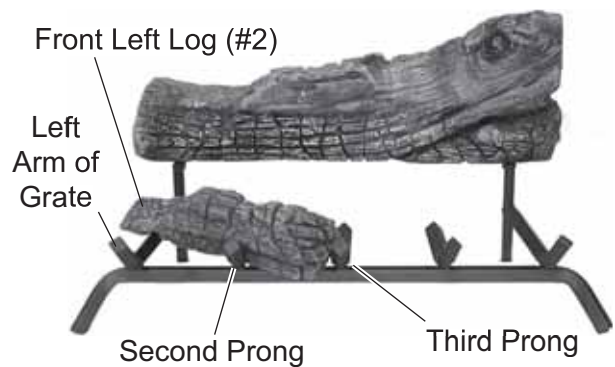

Figure 78 - Placing Front Left Log (#2) on Left Arm of Grate
3. Place Front Left Log #2 in front of back log on left arm of grate. Rest end of bottom left log between second and third prong of grate. *See Figure 78.*